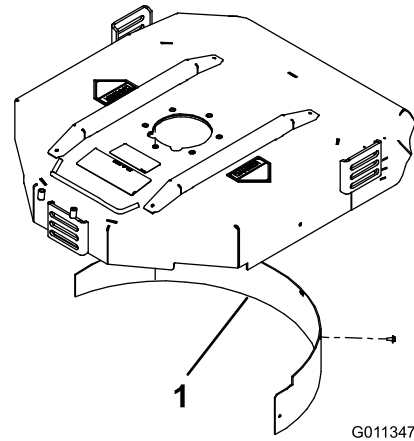

Figure 8
2. Install the mulching baffle in the rear opening and secure it with 5 flange-head bolts (Figure 8).